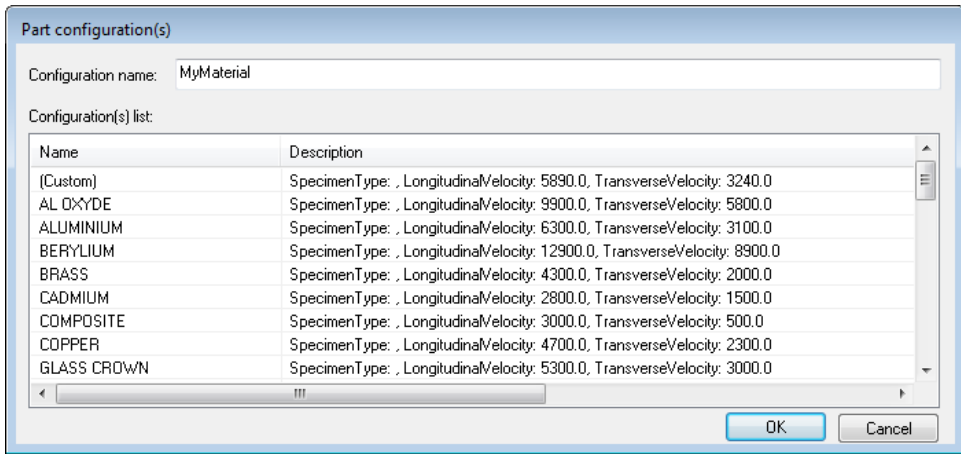

Figure 10-5 Saving with the Material Configuration dialog box
2. Click  (Save in database button), and then click **OK** (see Figure 10-5 on page 137).